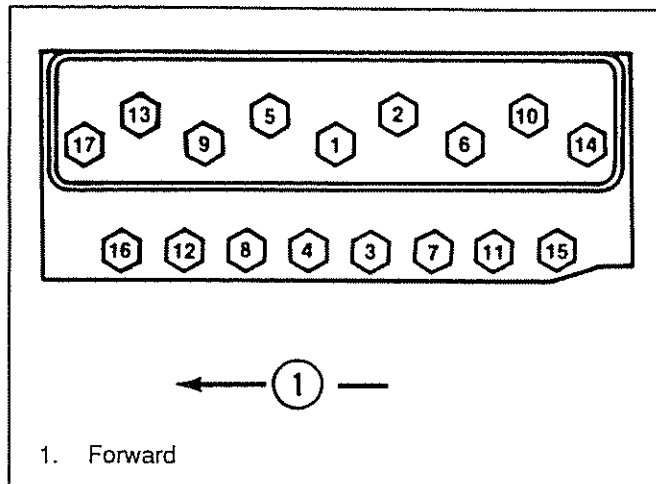

Figure 8-221. Cylinder-Head Torque Sequence
5. Tighten each cylinder-head bolt a little at a time, in sequence shown in Figure 8-221, until specified torque is reached.